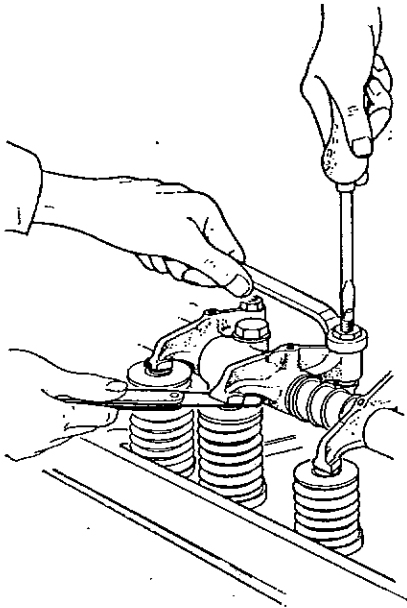

Fig. 26. Tappet Adjustment
7. Turn engine over until Valves 6 and 7 are open and check No. 2 (inlet) and No. 4 (exhaust) for their respective clearances. The adjustment is carried out as follows (fig. 26):